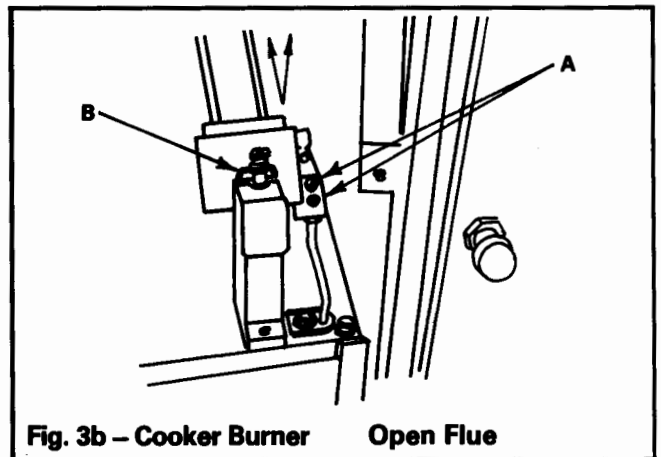

Fig. 3b – Cooker Burner Open Flue
- b. (To remove Cooker Burner – Fig. 3b). Remove two screws **A** securing cooker burner pilot to burner support bracket. Slacken octagonal locknut **B** securing cooker burner injector housing to gas burner manifold and carefully remove burner from the combustion chamber.